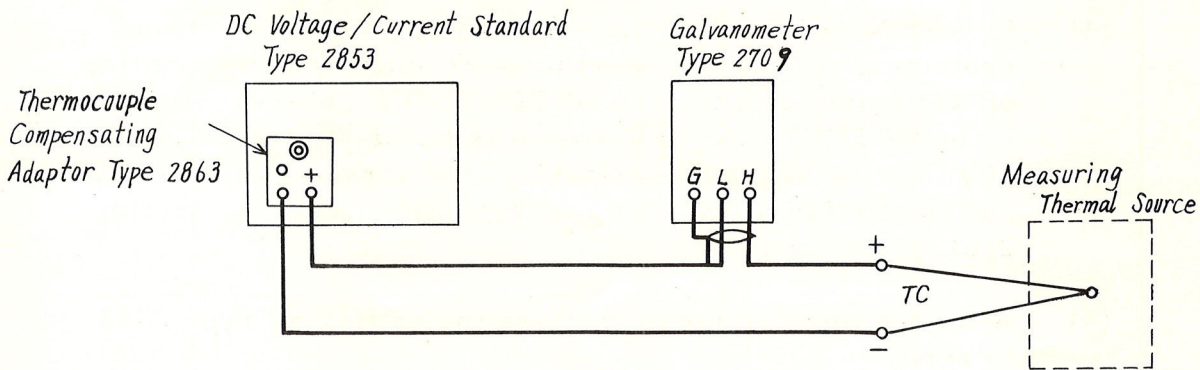

Fig. 2.4 Precision measuring circuit for temperature
- (1) Fix the thermocouple compensating adaptor to the corresponding terminals on the front panel of Type 2853.
- (2) Connect the thermocouple and the galvanometer according to Fig. 2.4.
- (3) Set the value corresponding to the thermoelectromotive force of the thermocouple at the temperature of the thermocouple cold junction by the use of the compensating dial.
- (4) Set the range selector switch of Type 2853 to the position of "x 10mV" or "x 100mV", and then adjust the setting value through the setting dial so that the galvanometer will indicate zero deflection. The setting value on this occasion is equal to that of the thermoelectromotive force of the thermocouple corresponding to the reference temperature. Thus, the measuring temperature is accurately known through the conversion table of thermoelectromotive force vs. temperature.